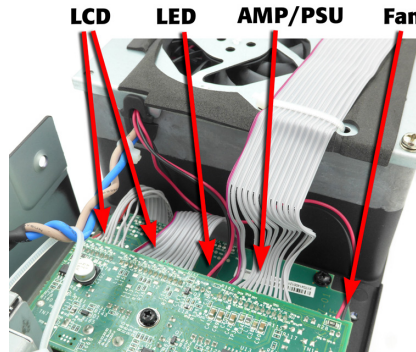

Figure 6.2.2 - Ribbon connectors.
4. Disconnect the 3 ribbon connectors (LED, AMP/PSU, and Fan) from the input/DSP board as shown in Figure 6.2.2. The ribbon cables going to the LCD board can remain connected.
16. Connect the 3 ribbon connectors as shown in Figure 6.2.2. Verify that the fan and front LED 2-conductor wires are connected to the appropriate locations.
2. Disconnect all 5 ribbon cables from the input/DSP board (Figure 6.2.2).
7. Connect all 5 ribbon cables back to their original locations on the input/DSP board as shown in Figure 6.2.2.